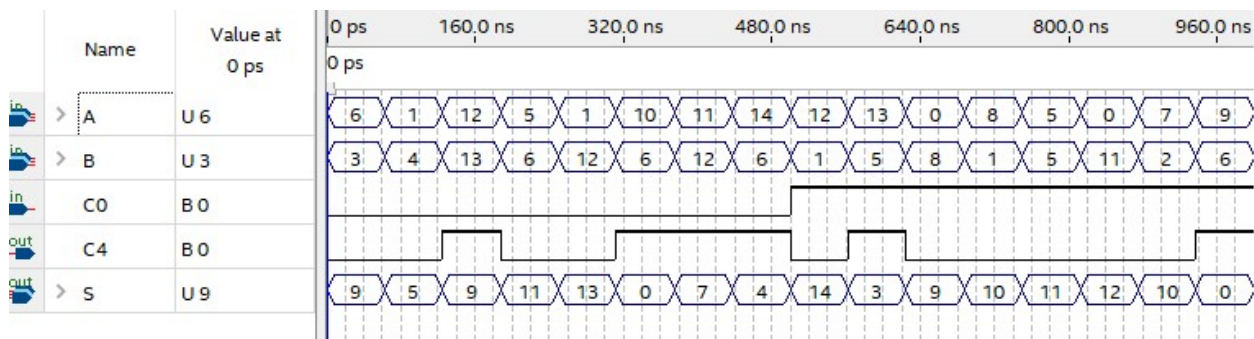

Figure 3: A CLA4 simulation
- g. **Use** Figure 3 as a guide for what a good simulation would look like.